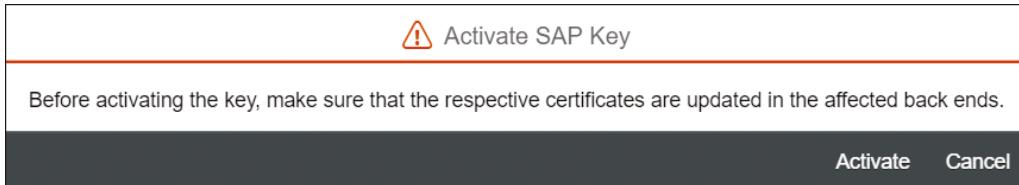

Figure 10.63 Warning Message Reminding You to Update Corresponding Keys in the Connected Remote Systems
8. A warning message is shown that reminds you to do the preparatory steps as explained earlier (Figure 10.63).